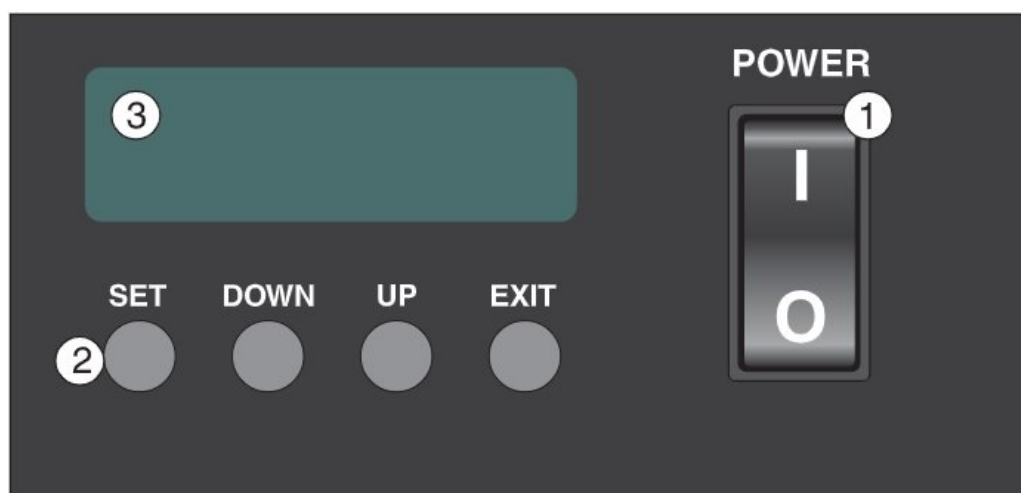

Figure 2 Control Panel
The control of the furnace is simple and easy-to-use. The controls of the furnace are located on a slanted surface on the front of the furnace lid. See Figure 2. Next to the controller display is: (1) the power switch, (2) the control buttons, and (3) the digital LED display.
- (1) The power switch is used to energize the unit.
- (2) The control buttons (SET, DOWN, UP, and EXIT) are used to set the furnace temperature set-point, access and set other operating and calibration parameters.